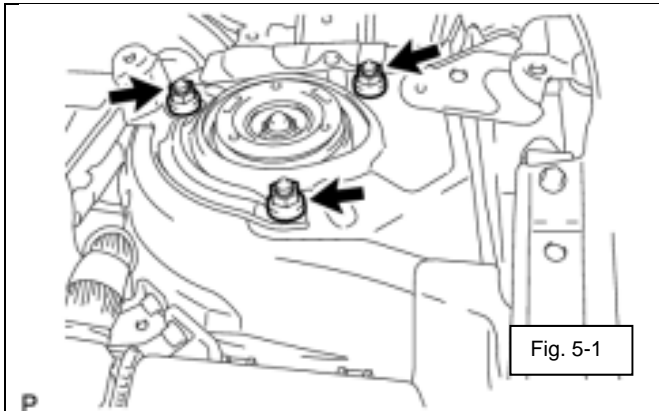

Fig. 5-1
- (1) Do not force the nut causing the shock absorber piston shaft to rotate.
- (2) This nut will be torqued down later, once the strut assembly is back on the car.
- (a) Raise strut up into wheel well, fasten 3 nuts. (Fig. 5-1)
- (1) Confirm TRD strut brace or OE strut reinforcement is in place.